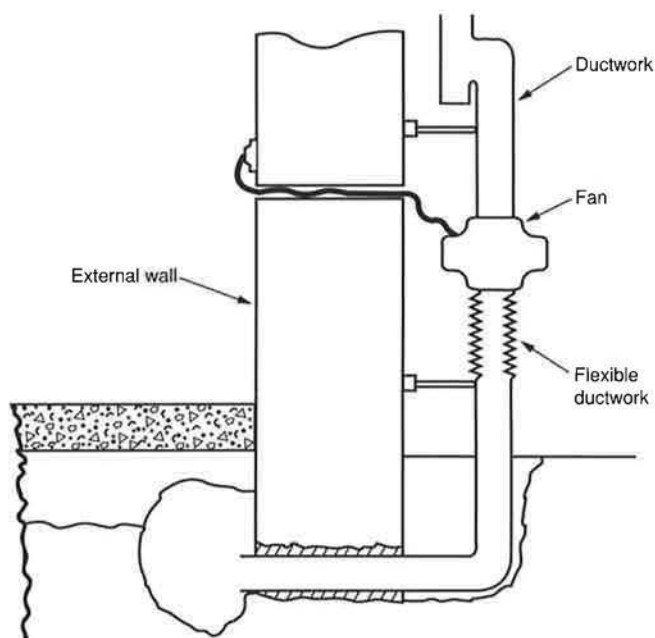

Figure 7 Section through wall showing fan and ductwork mounted on a heavy, rigid support point
- Mounting the fan and ductwork on a heavy, rigid support point which is not easily shaken (see Figure 7)